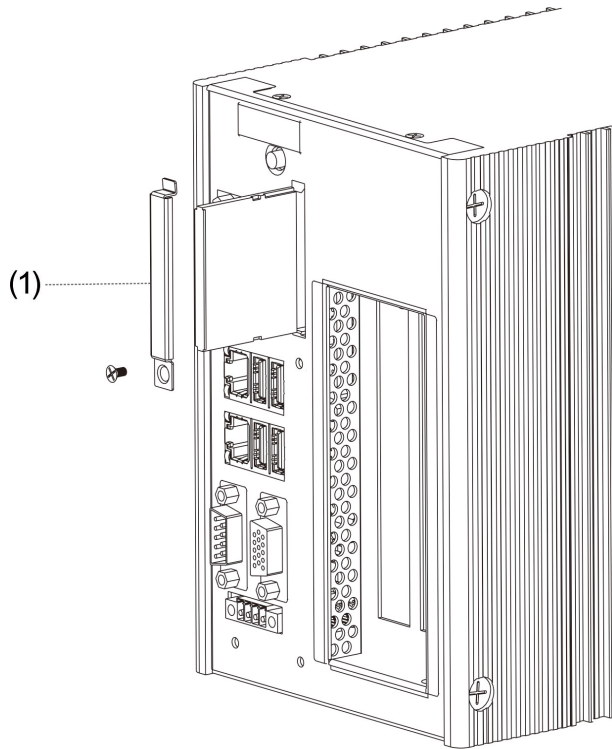

Figure 3.4.1 Remove screws from the protection cover
- Remove the screws from the protection cover (1) for the CFast card and then remove the cover. See Figure 3.4.1.